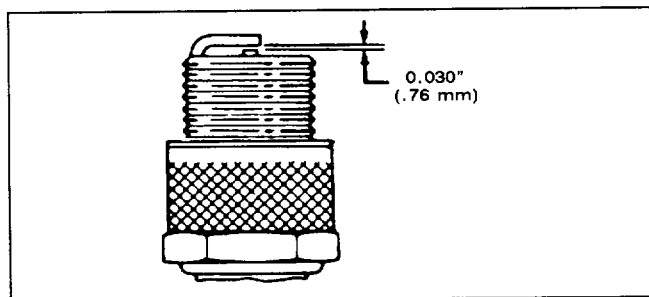

Figure 16
**3. INSTALL SPARK PLUG** — Set air gap (Fig. 16) between electrodes at .030" (.76 mm). Install plug and tighten to 15 ft-lb (20.4 N-m). If torque wrench is not used, tighten plug firmly with wrench by hand; **DO NOT OVERTIGHTEN**. Push wire onto spark plug and reinstall control panel.